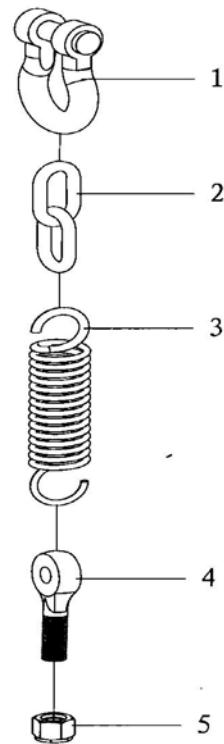

Fig. 25
7. Assembly of suspension chain (Fig 25, Table 22)